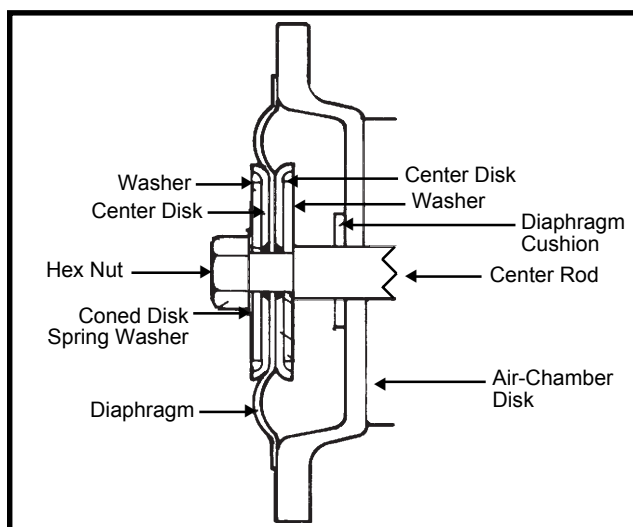

Figure 8: Diaphragm and Parts
9. Lubricate the center rod (124) with grease and push it through the center rod bushing (121) into the pump body (120).
10. Place the diaphragm cushion (125), one washer (108), one centerdisk (107), the rubber diaphragm (106), a second centerdisk (107) and a second washer (108) on the center rod (124). (See Figure 8).
NOTE: The cone disk spring washer must be placed so that the convex side faces out (See Figure 8).